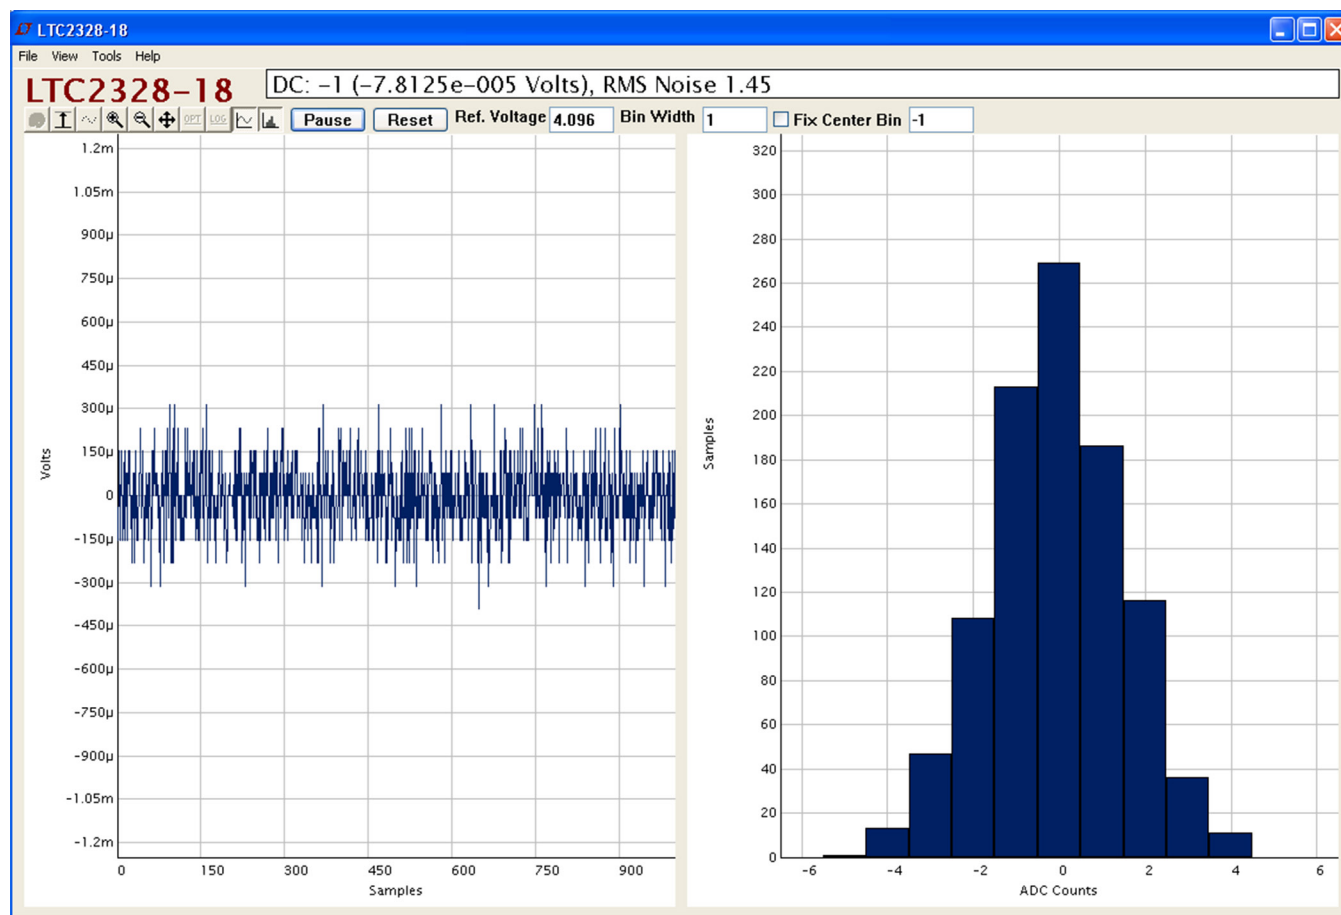

Figure 3. QuikEval Screenshot Captured with a 50 Ω Terminator on AIN
6. Click the COLLECT button (Figure 3) to begin reading the ADC.
To observe measurements from QuikEval, use a DC590 or program a DC2026 with a DC590 sketch from an Arduino IDE. Then launch QuikEval, a typical data capture and histogram are shown in Figure 3.